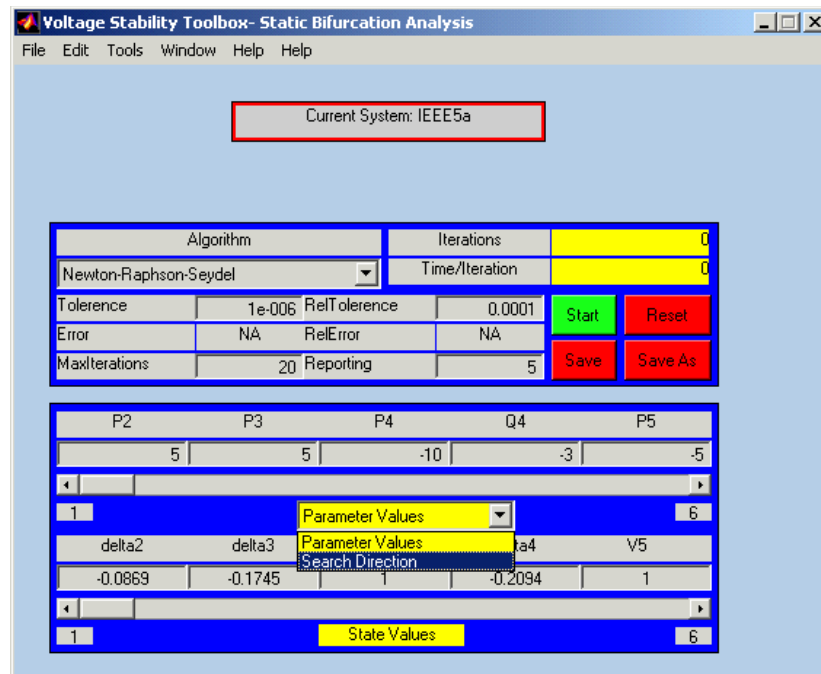

Fig. A.18 The Static Bifurcation Analysis window
- This will activate the Static Bifurcation Analysis window shown in Fig. A.18.